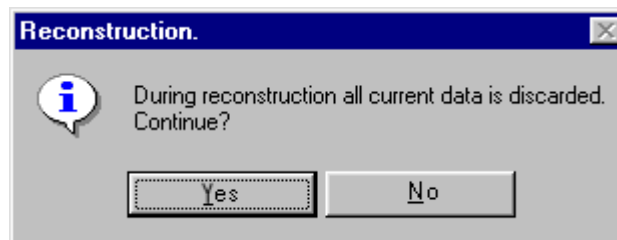

Fig. 1: Confirmation request before reconstruction
1. After initiating the reconstruction procedure, a confirmation request is displayed (see fig. 1). Confirming with "Yes" continues the procedure. Note that all device data existing in the database will be replaced by the data read out in the following procedure. Selecting "No" aborts the reconstruction without affecting the data stored in the database.